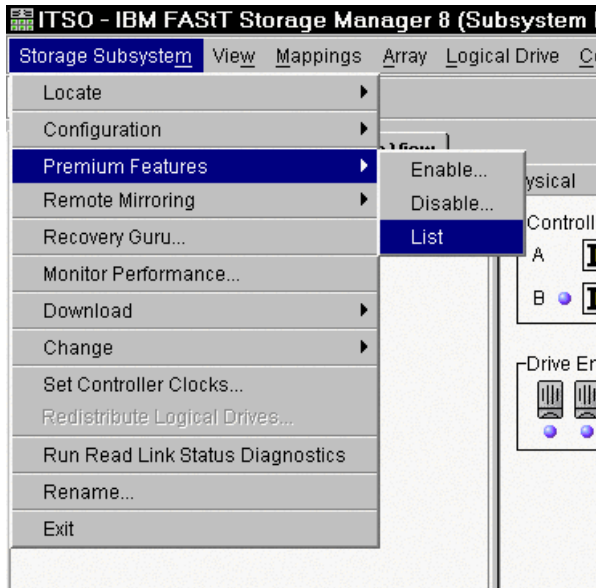

Figure 5-3 Listing premium features
1. From the Subsystem Management window, click **Storage Subsystem-> Premium Features-> List**. Or you can right-click and click **Premium Features-> List** (see Figure 5-3).